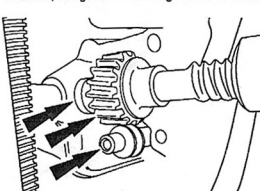

FIGURE 7
- Install drive gear assembly into the case gearbox housing. (Refer Figure 7).